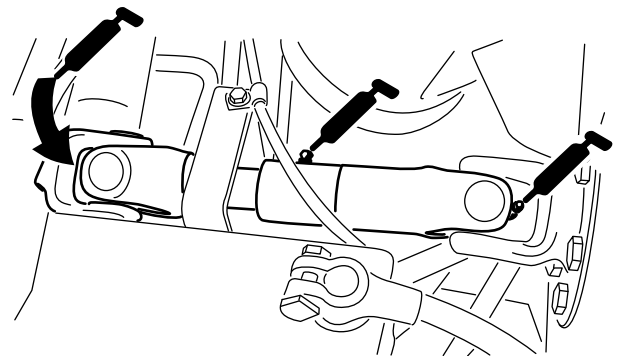

Figure 29
- Pump driveshaft U-joint (3)—Figure 29